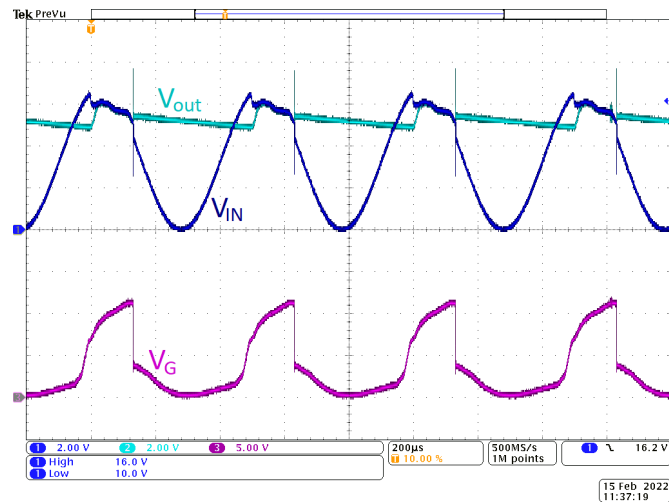

Figure 26. Application Response to 13 V + 6 Vpp Sine Wave on the Input (VIN) – Ideal Diode + High Side Switch Application (see Figure 23)
Besides presenting a sufficiently low impedance for the load input rail, in an Ideal Diode application the Cbulk capacitance should be high enough to maintain adequate voltage while providing load current for the duration of battery sag plus the charge from reverse current spike before the NMOS transistor turns off. Capacitor ESR is also limited by the RDS(ON) of the NMOS, as high ESR can reduce reverse current flow below that needed to create sufficient NMOS reverse voltage drop (see Figure 26). The value of the Cbulk capacitor can be calculated according to the Equation 1: